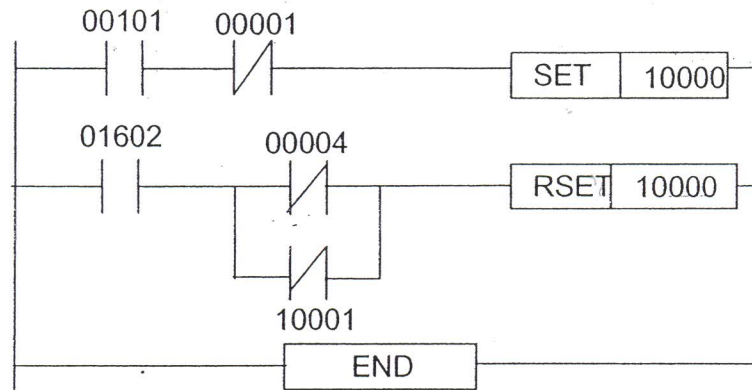

Figure 3: Ladder diagram with SET/RESET
Answer all questions based on **Figure 3**:
- (a) Redraw the ladder diagram in **Figure 3** by replace the latching circuit (SET/RSET) to self-holding contact. (3 marks)